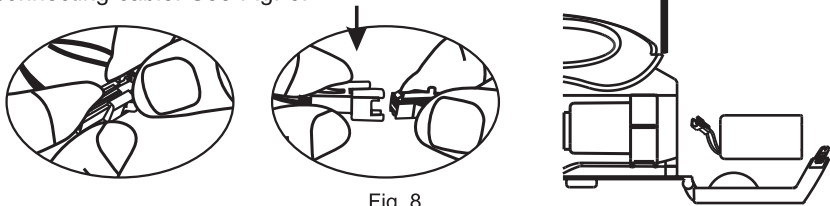

Fig. 8
- (C) Press and release the tabs to disconnect the rechargeable battery pack from the connecting cable. See Fig. 8.